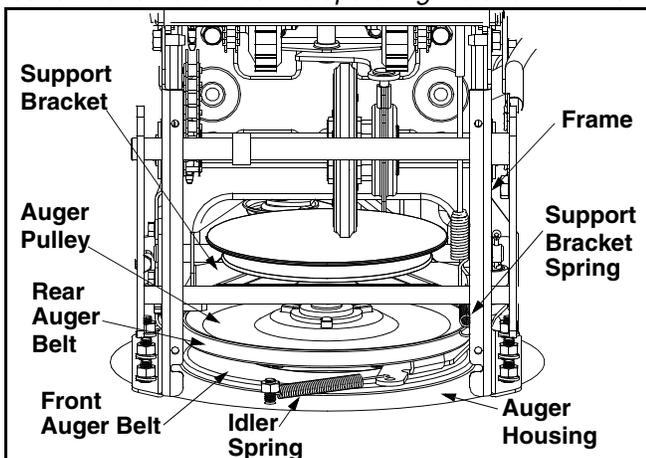

Figure 20
- Unhook the idler spring from the hex bolt on the auger housing. See Figure 20.
- Lift the auger belt from the auger pulley, and slip belt between the support bracket and the auger pulley. Repeat this step for the front auger belt. See Figure 20.